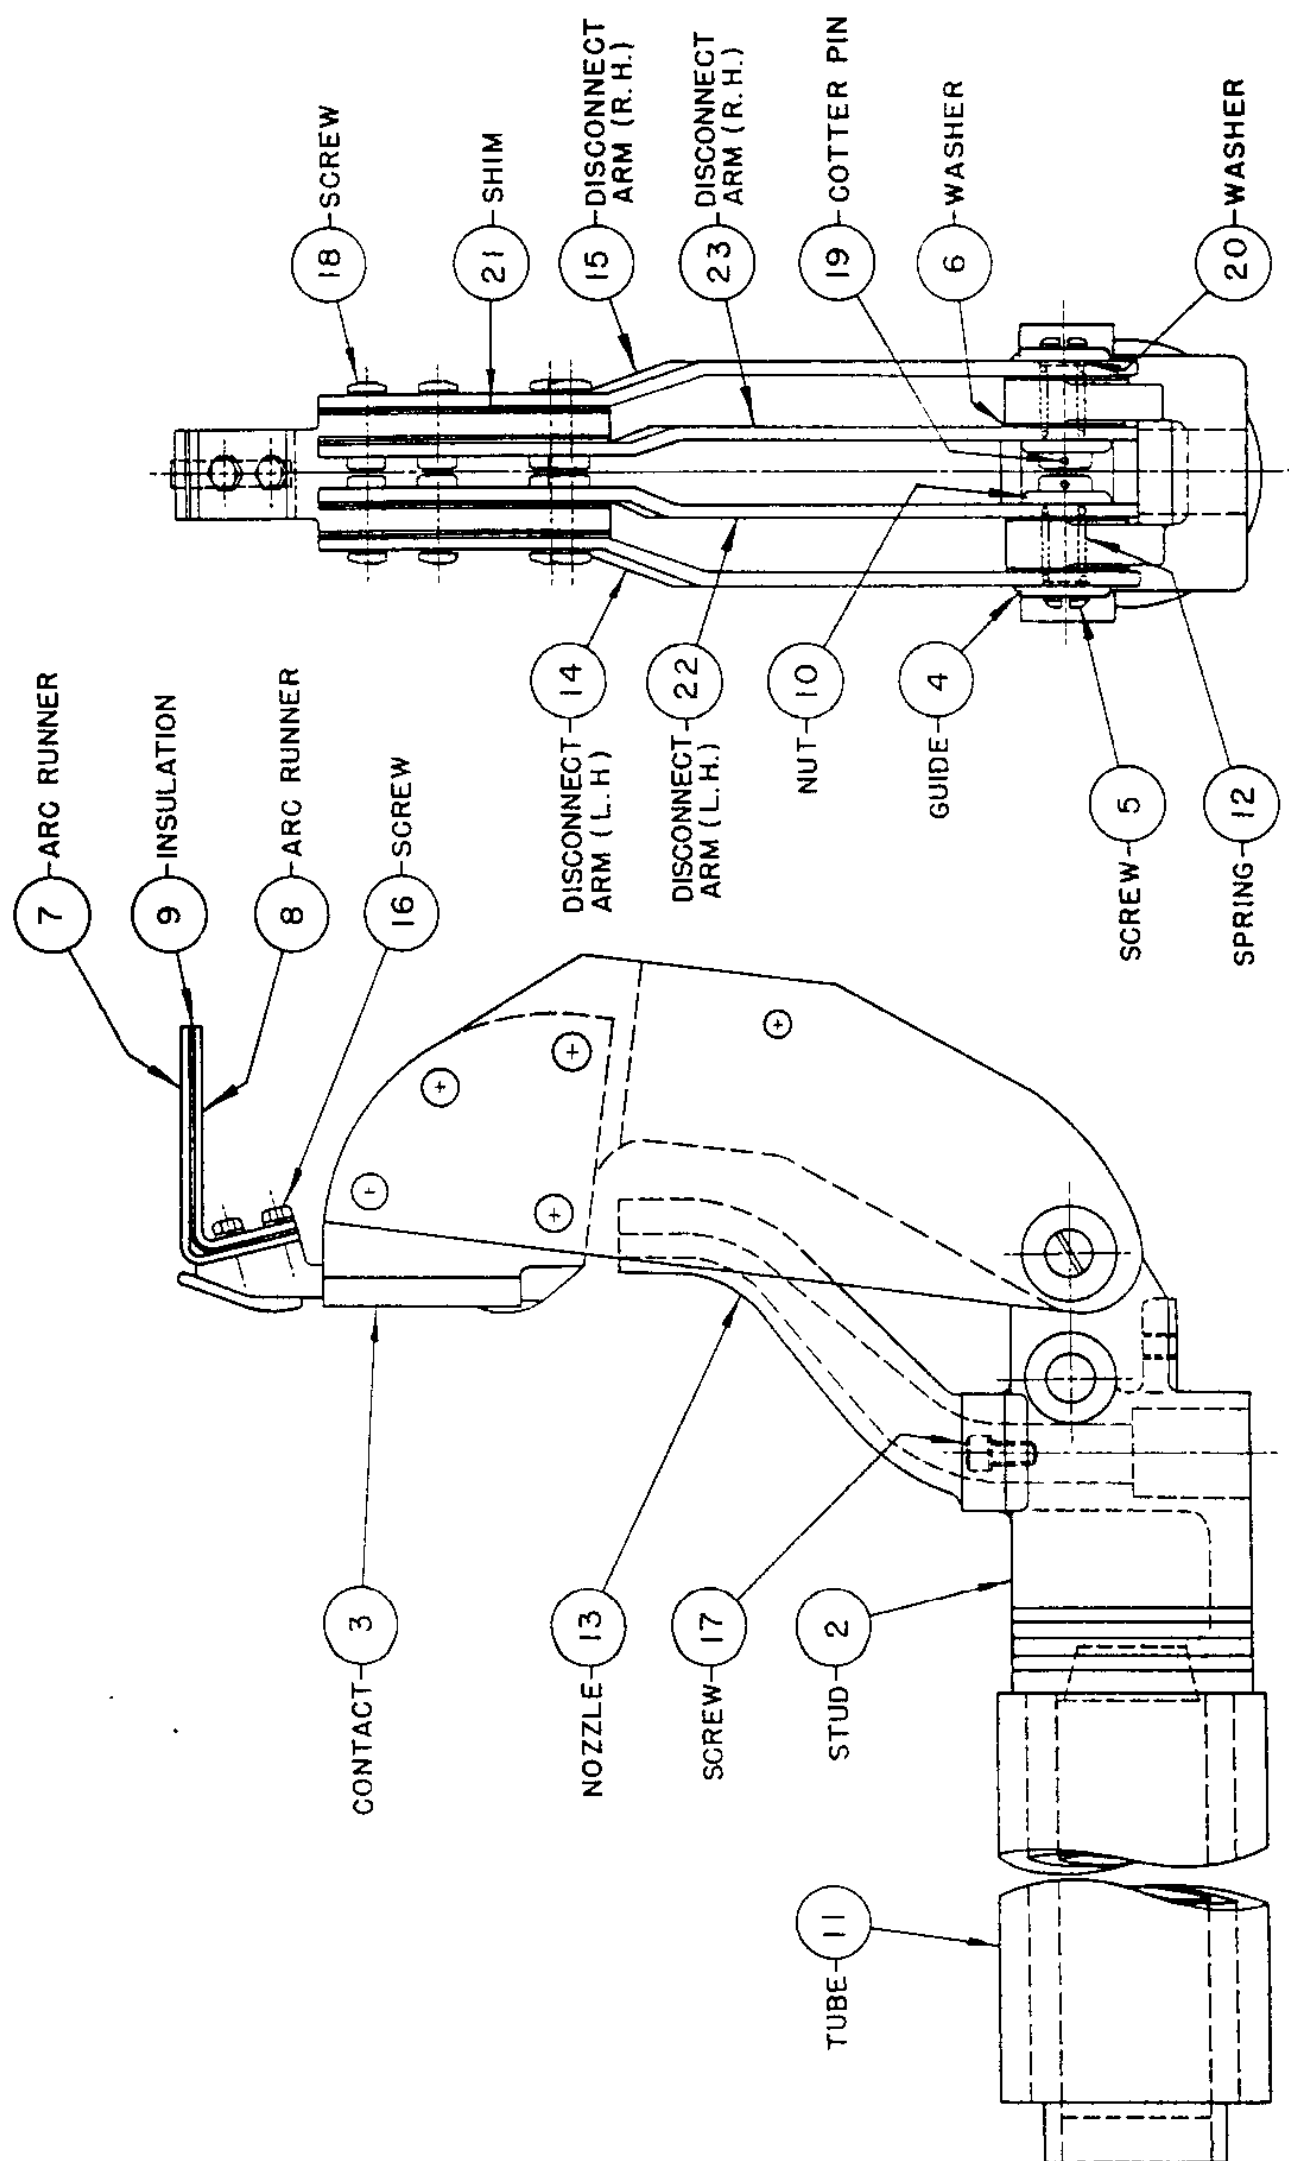

FIG. 25
- 22 - Remove disconnect arms as a unit by removing screw (25-5), nut (25-10) and spring (25-12). Refer to Figure 25. Carefully inspect all contact surfaces in hinge joint. Silver washer (25-6) and adjacent surfaces should be clean and free of roughness or galling. Lubricate silver washer and mating surfaces by rubbing in microfine dry graphite used sparingly. Reassemble hinge joint replacing same number of silver washers that were removed.